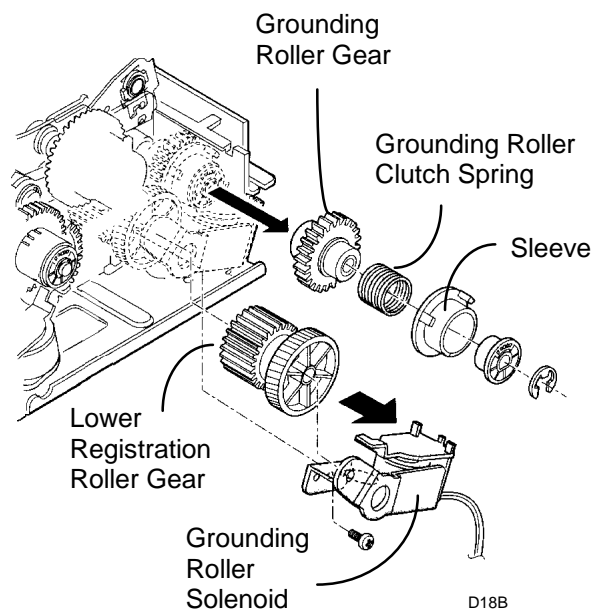

Figure 1. Removing the Grounding Roller Clutch
2. (Figure 1): Remove the Grounding Roller Clutch.